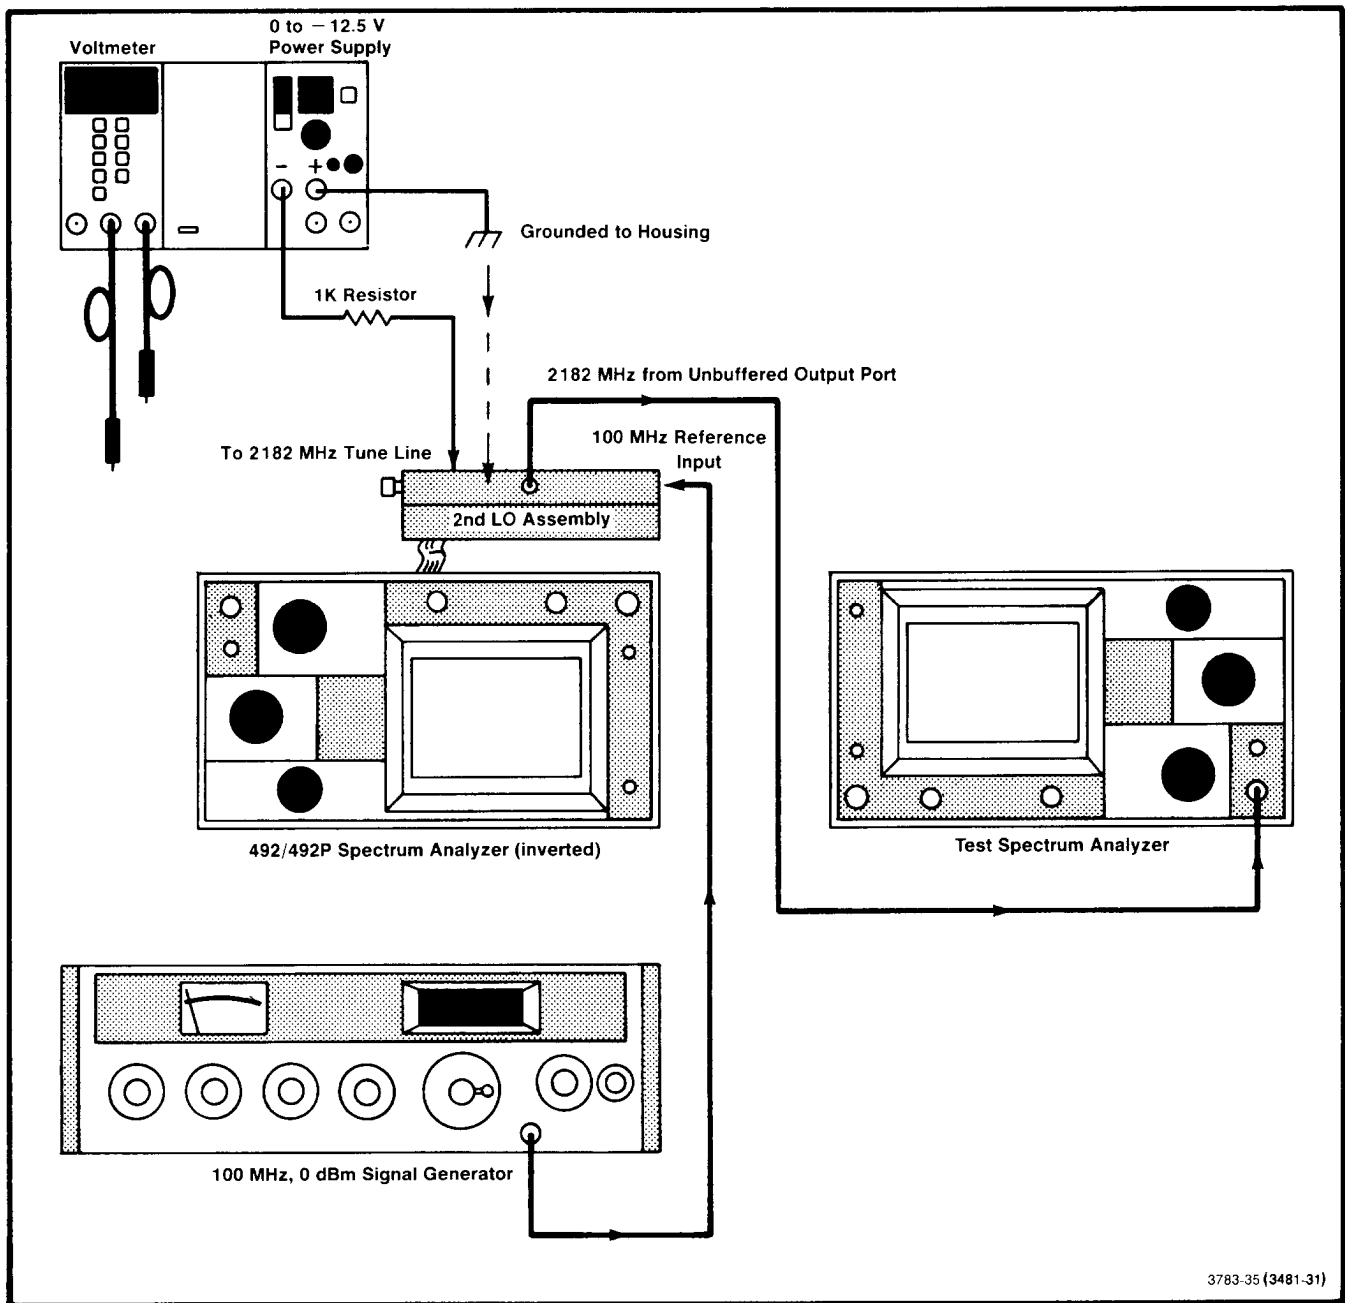

Fig. 4-18. Test equipment setup for calibrating the oscillator section of the 2182 MHz Phaselocked 2nd Lo.
a. Test equipment setup is shown in Fig. 4-18. Turn the POWER off. Place the 492/492P Spectrum Analyzer upside down so the RF deck is exposed. Use a 5/16 inch wrench to loosen and remove the two semi-rigid cable connections to the assembly. Remove the flexible coaxial cable connection to the 100 MHz input.